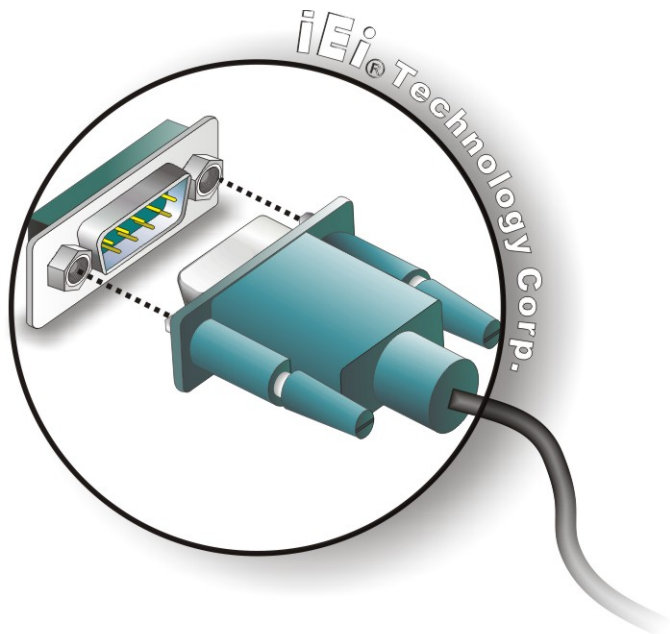

Figure 2-21: Serial Device Connector
Step 2: **Insert the serial connector.** Insert the DB-9 connector of a serial device into the DB-9 connector on the external peripheral interface. See **Figure 2-21**.